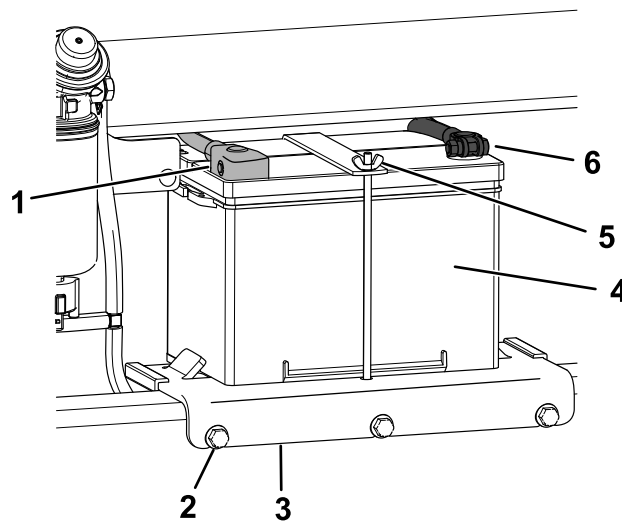

Figure 60
4. Disconnect the negative (black) ground cable from the battery post (Figure 60). Retain the fasteners.
6. Disconnect the positive (red) cable from the battery post (Figure 60). Retain the fasteners.
- Loosen the 3 bolts securing the battery tray and remove the tray with the battery (Figure 60).
- Place the battery on the battery tray and secure it with the wing nut and rod (Figure 60).
- Install the battery tray to the machine and secure with the 3 bolts (Figure 60). Torque the bolts to 41 N·m (30 ft-lb).
- Using the fasteners previously removed, install the positive (red) battery cable to the positive (+) battery terminal (Figure 60).
- Using the fasteners previously removed, install the negative (black) battery cable to the negative (-) battery terminal (Figure 60).